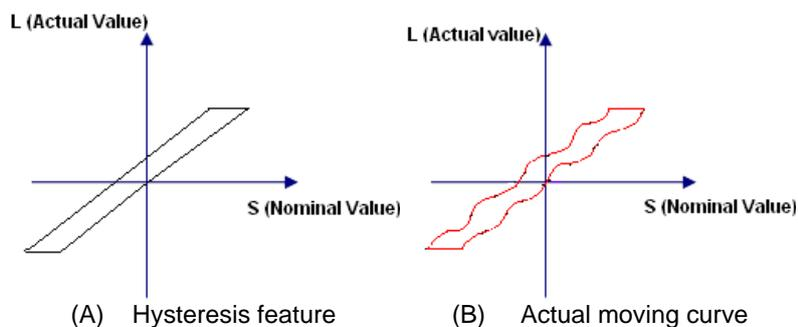

Fig. 3-67 Analysis of backlash
Hysteresis feature is caused by forward and reverse clearance. Assume that driving shaft drives driven shaft in negative (CW) rotation, servo motor will be idling without moving worktable because of mechanical driving chain backlash, when the driving shaft suddenly begins CCW rotation (positive motion). After staying at a certain position for some time, the worktable will move backward with the driving shaft; when the direction of the driving shaft changes again, the situation is the same, which is called Hysteresis. If pitch error doesn't exist, under ideal condition, the moving curve of worktable is shown in Fig. 3-67 (A), in which the curve of horizontal section is during the idling of servo motor without worktable movement. The actual moving curve of worktable is shown in Fig. 3-67 (B).